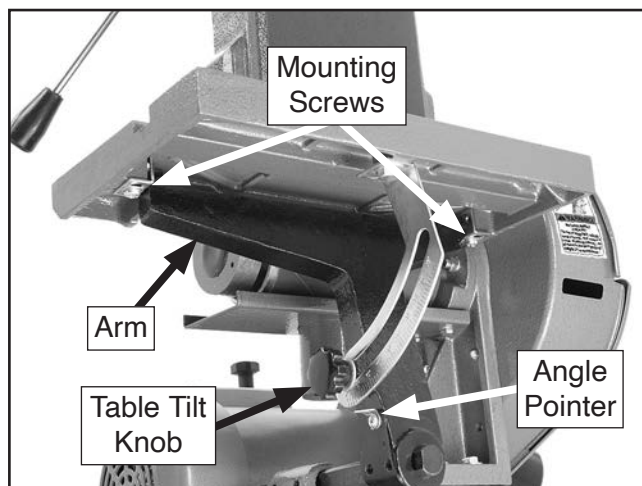

Figure 66. Location of work table arm mounting screws.
- If the gap is not 1/16" across the entire length of the work table, loosen one or both of the screws under the table (see **Figure 66**), where the arm is attached to the table, and adjust the table until the distance is correct, then tighten the screws.